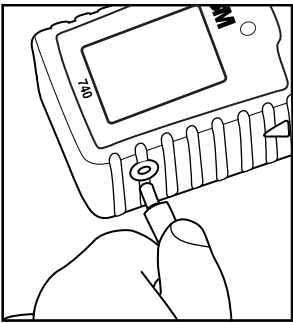

Fig. 32
- 1. Turn off the unit. Plug the charger output into the receptacle near the bottom of the detector (Fig. 32).